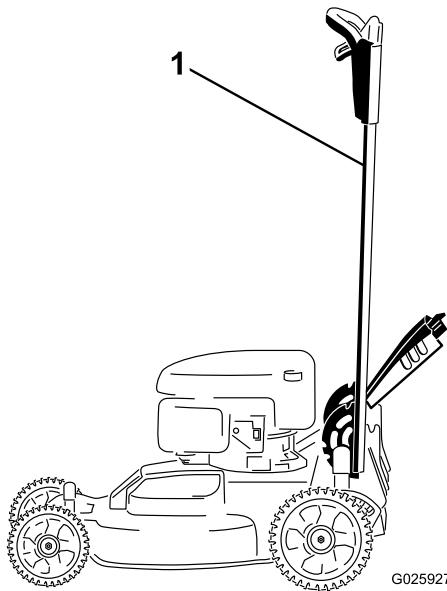

Figure 37
1. Lock the handle in the vertical position (Figure 37); refer to Adjusting the Handle Height \(page 12\).